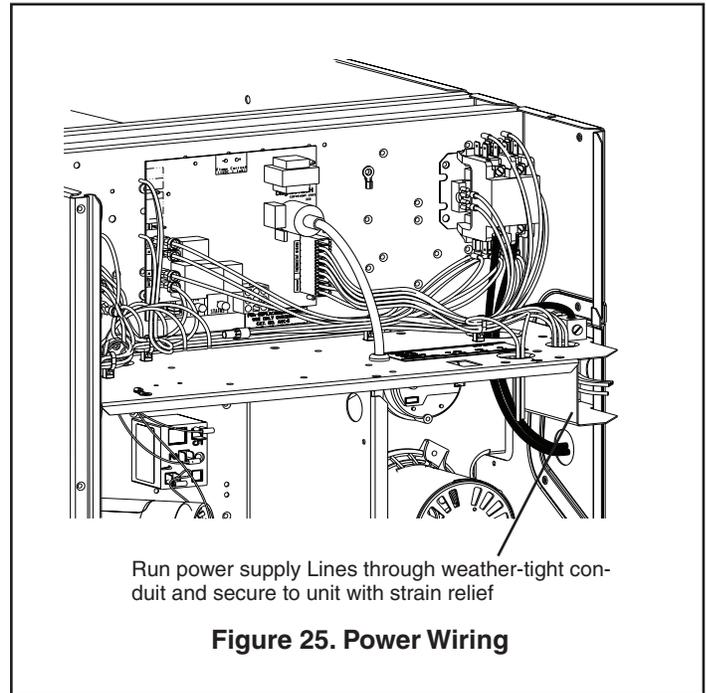

Figure 25. Power Wiring
1. Remove the Control/Heat access panel. Pass the power wires through the Power Entry hole in the end of the unit. See Figure 25.